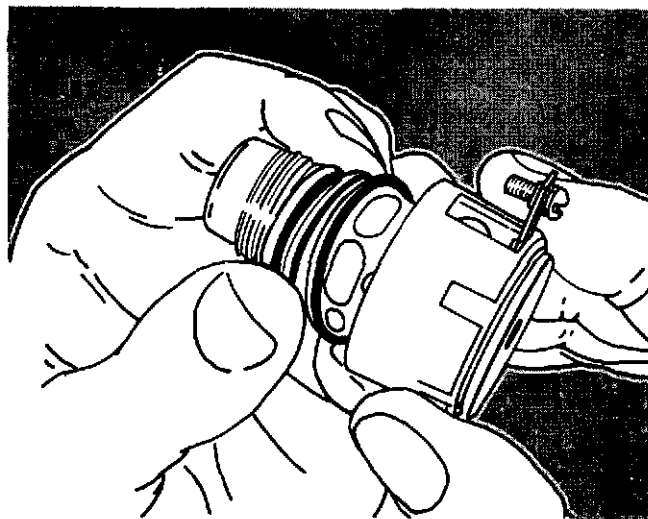

Fig. 20-18. Install The O-Ring Seals Onto The Solenoid Valve.
3. Install the new O-ring seals onto the solenoid valve, Fig. 20-18. Make sure that the O-rings are correctly installed onto the solenoid valve.